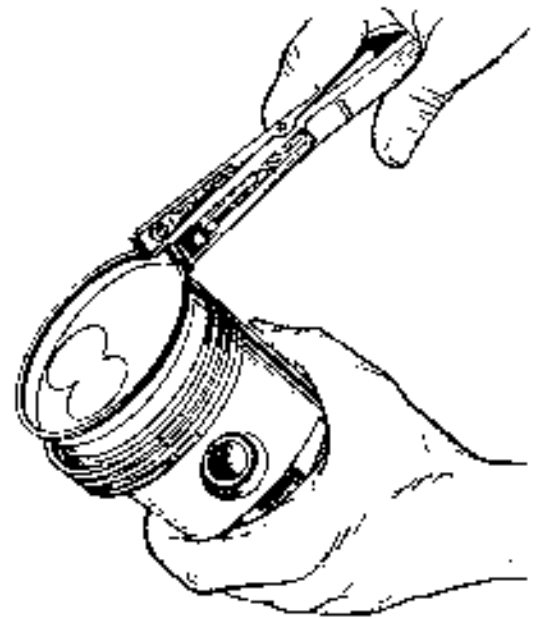

FIGURE 16-2. REMOVING PISTON RINGS
4. Remove piston rings from piston with a piston ring spreader as shown in Figure 16-2. Remove piston pin retainer and push piston pin out.